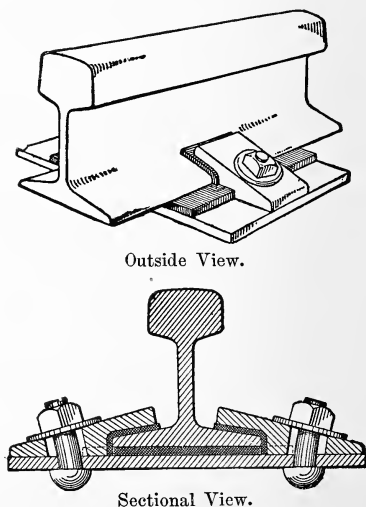

FIG. 76.—Method of Fastening the Rail to a Metal Tie, with a Fibre Insulation.
**Metal ties.** thin sheet of iron or steel, rolled or pressed into shape, and the rail is held to them usually by a clip, bolt and nut, as in fig. 76, although as
and XV), it is necessary to prevent the electric current from passing from one rail to another by means of the cross ties. This can only be done by some method of insulation. Fig. 76 illustrates one of the methods. Here there are some fibrous sheets interposed between the rail and all of the surrounding metal; since the fibre is a non-conductor of electricity, the rail becomes what is called "insulated."